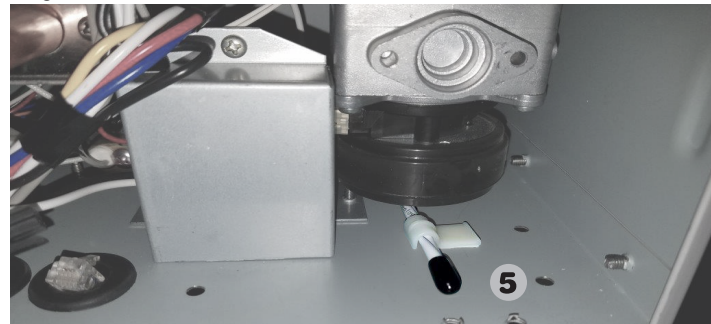

Figure 3.
- Create a loop on the left side of the Gas Tankless Water Heater passing through the back of the water inlet and outlet and concluding with the tip of the sensor on the bottom-right side of the water heater. As shown in Figure 3.